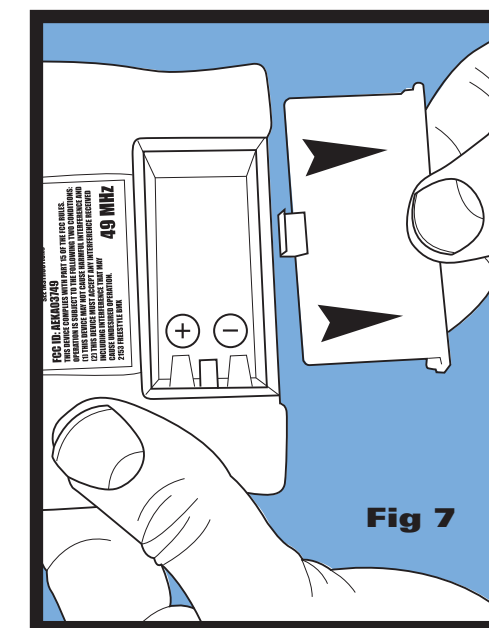

Fig 7
1. Slide open BATTERY DOOR on back of TRANSMITTER. (Fig. 7)